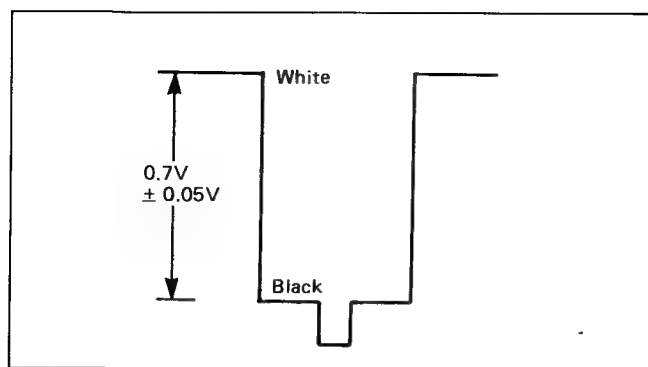

Fig. 20
- 4) Adjust Sub Contrast control VR (R353) to achieve $0.7V \pm 0.05V$ on the oscilloscope as shown in Fig. 20.